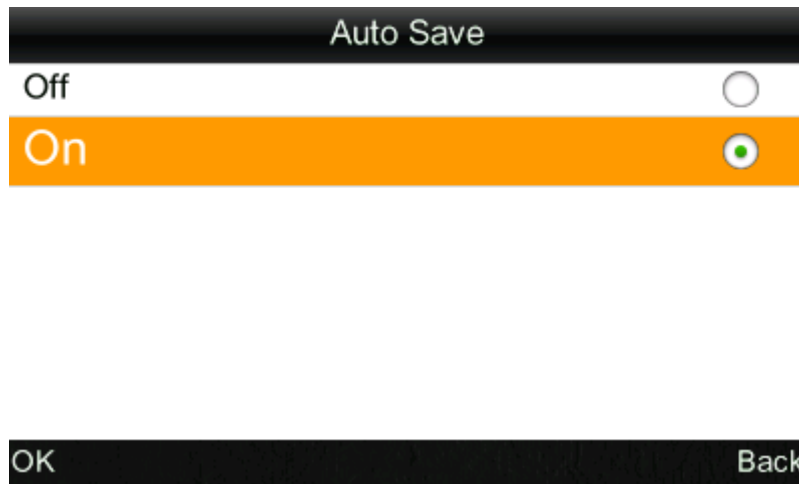

Figure 50 Auto Save Interface
- b) Select “Settings” - “Auto Save” to enter an interface shown in Figure 50. This interface enables you to set measured data automatically or not. Select “Open”, each sample data and standard data will be saved automatically. Select “OFF”, data will not be saved automatically.